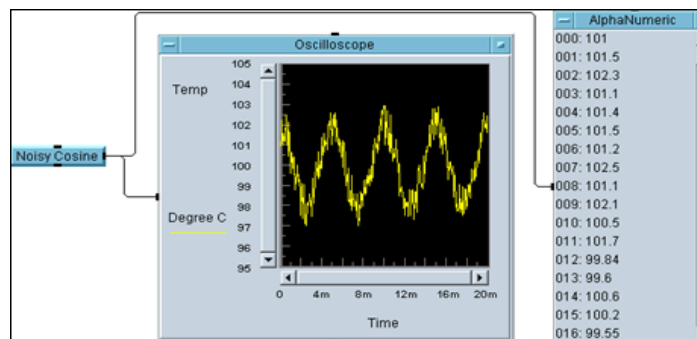

Figure 1-18 The Noisy Cosine Program after running
- 7 Depress the Run button; the displays will appear as shown in Figure 1-18.